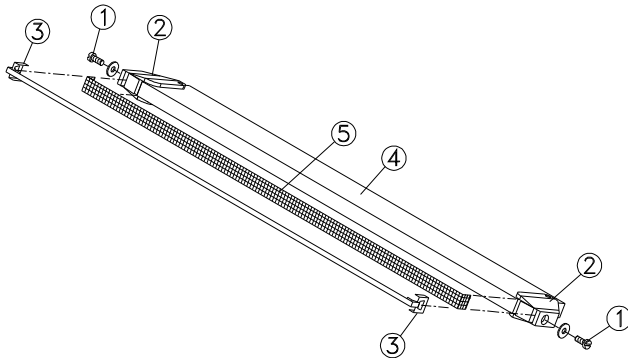

Fig. 8
Remove the plug from the mains supply and see fig. 8. Remove the upper PTFE (see Ch. 8.1). Remove the screws (1) out of the sealing wire tensioners (2) and remove the sealing wire.
Remove the plug from the mains supply and see fig. 8. Remove the upper PTFE (see Ch. 8.1) and remove the sealing wire (see Ch. 8.2). Now remove the old lower PTFE. Clean the sealingbar (4) from old glue rests. Stick the new lower PTFE (5) onto the sealing bar (4) and take care that both ends of the lower PTFE should be placed with an equal distance between the sealing bar (4) and the sealing wire tensioners (2).